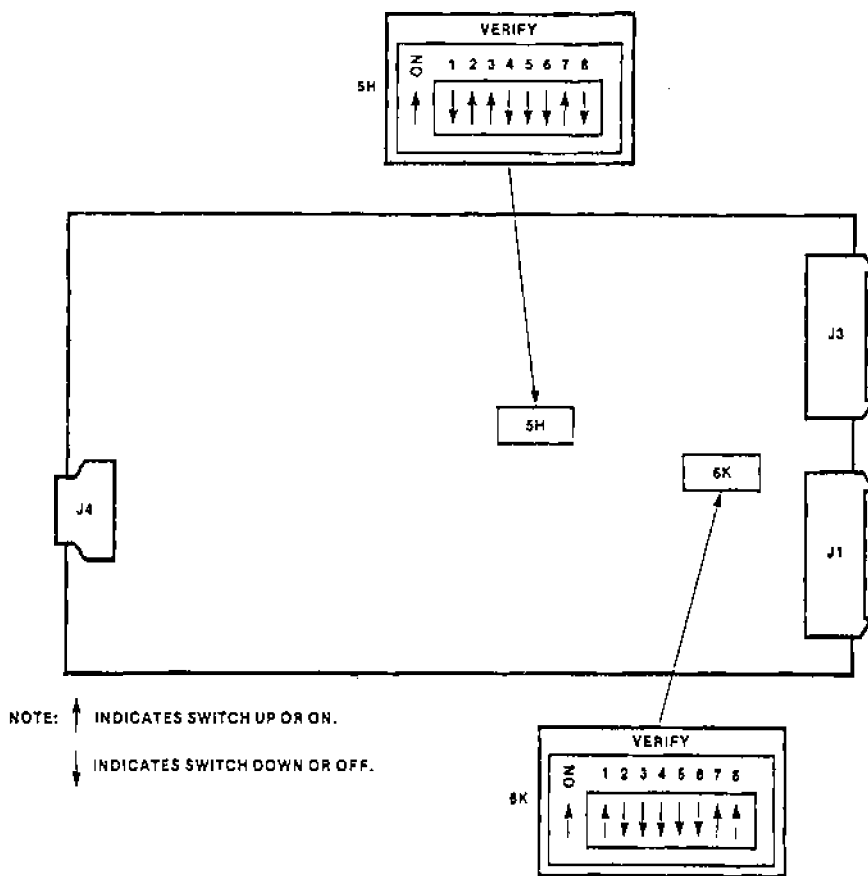

Figure 2-4. Drive Switch Settings
4. On the Winchester drive itself, verify that switches 5H and 6K on the Read/Write Digital Control Board are set as shown in figure 2-4.